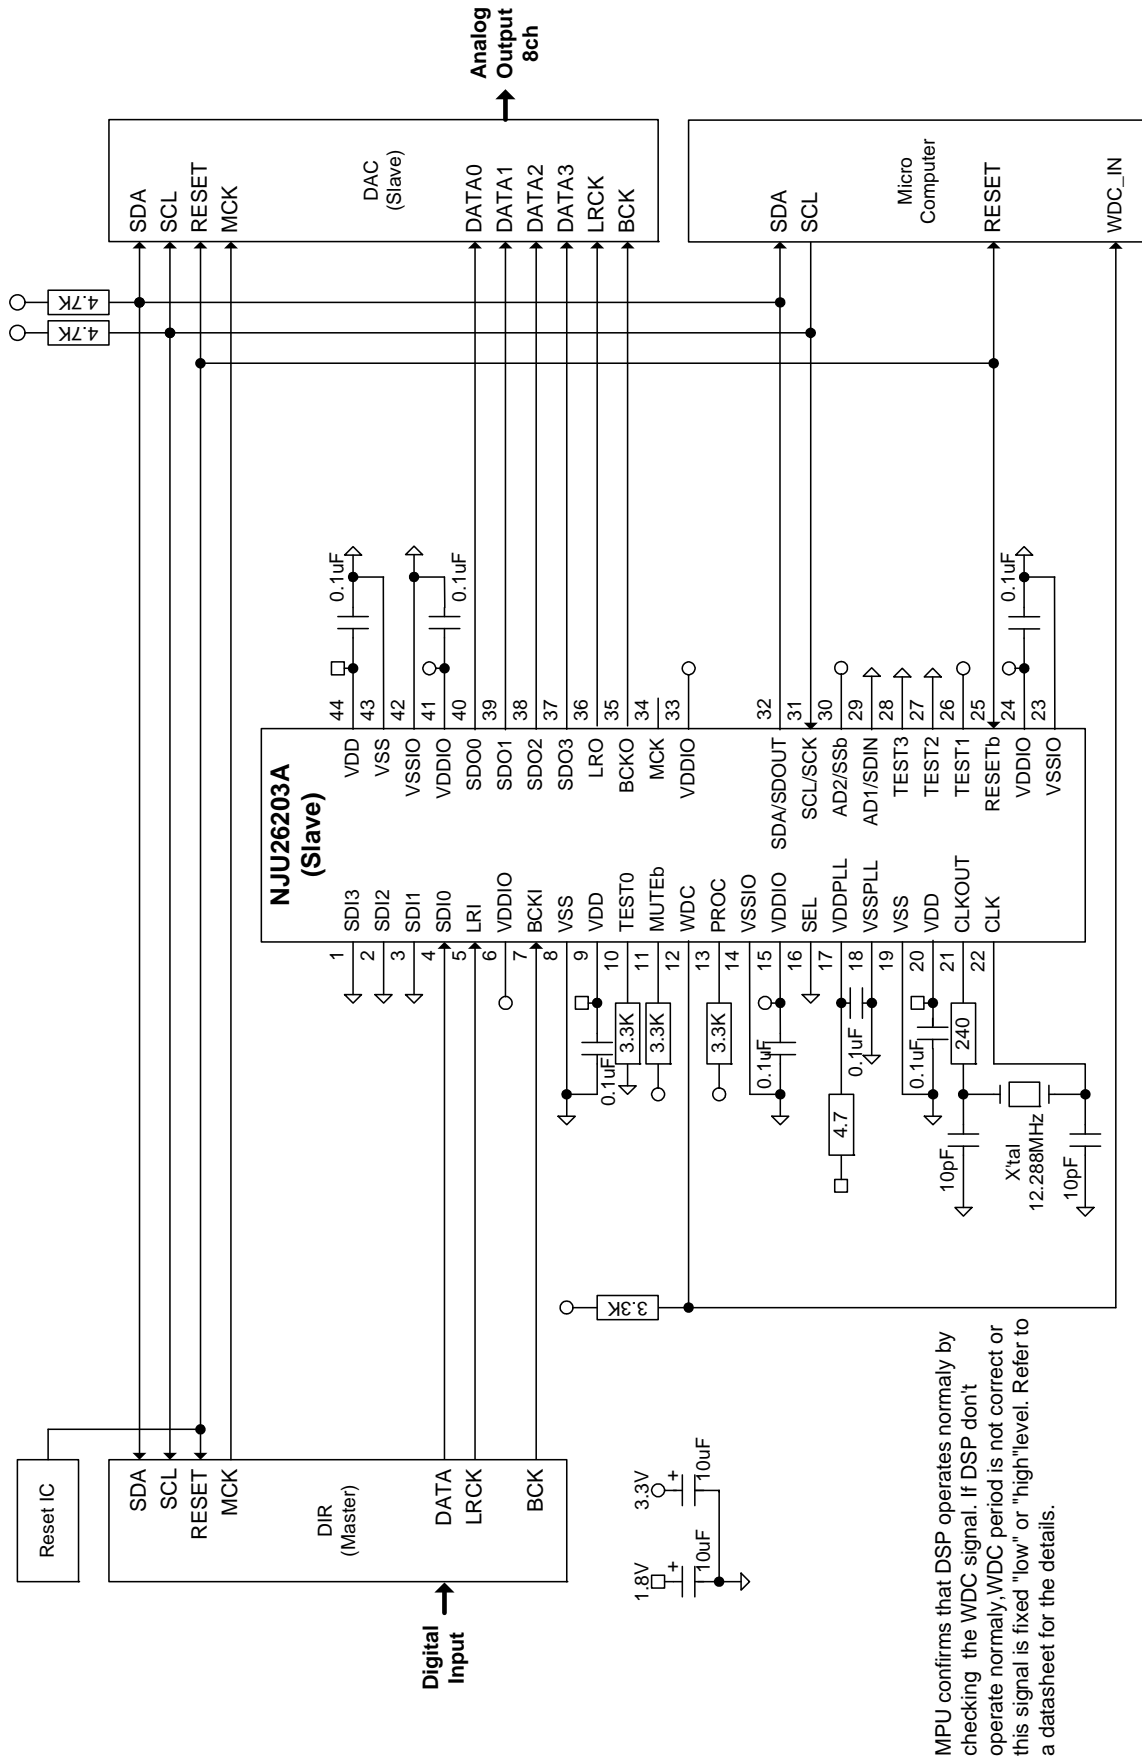
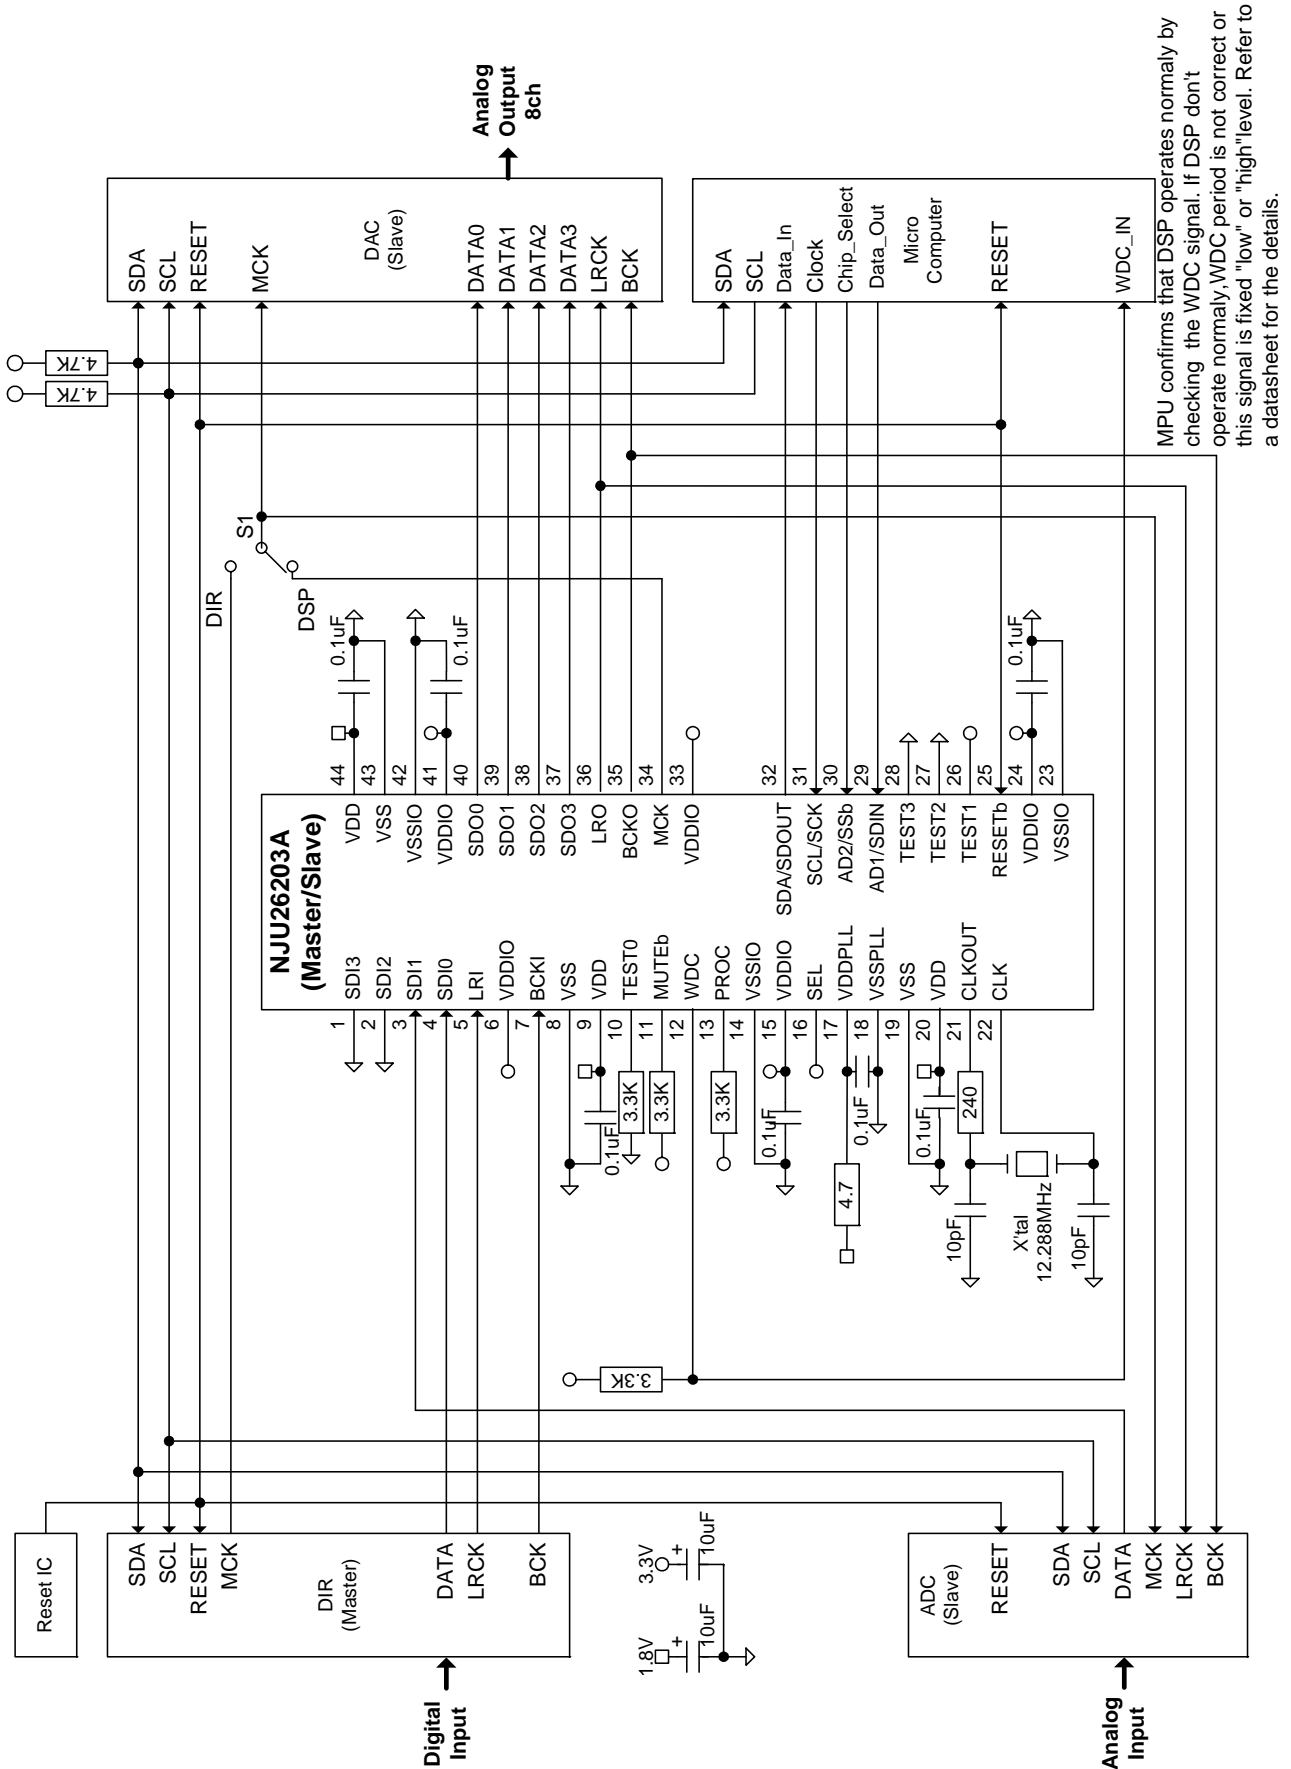

Figure 3. Application circuit 1: NJU26203A with DIR and DAC (I²C Bus)
Figure 6. Application circuit 4: NJU26203A with DIR, ADC and DAC (4-wire Serial Bus)
Note3: The ADCs and DACs operate in Slave mode in the Figure 3 to Figure 6.
The Figure 3 shows the circuit with DIR, DSP and DAC. The DSP operates in the Slave mode.
This application circuit 4 is the example circuit to control the DSP by the 4-wire serial bus. The Figure 6 shows the circuit with DIR, ADC, DSP and DAC. The difference between the application circuit 3 and this application is just using the I²C Bus or the 4-wire serial bus.
- 1) The DSP employs three kinds of power supplies, core (V_{DD}), PLL (V_{DDPLL}), and IO (V_{DDIO}). The V_{DD} and V_{DDPLL} are 1.8V. The V_{DDIO} is 3.3V. The input terminals accept 5V signal. The Figure 3 to Figure 6 circuits assumes that the peripheral ICs employ 3.3V power supply. Then the DSP can connect to the peripheral ICs directly.